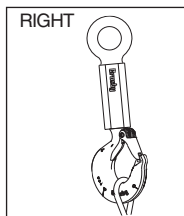
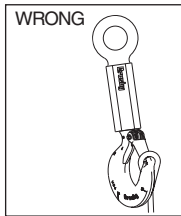

Figure 3
Figure 4
- Always make sure the hook supports the load. (See Figure 3 on page 156). The latch must never support the load (See Figure 4 on page 156).
- When placing two (2) sling legs in hooks, make sure the angle between the legs is less than 90° and if the hook or load is tilted, nothing bears against the bottom of this latch. (See Figures 3 & 4)